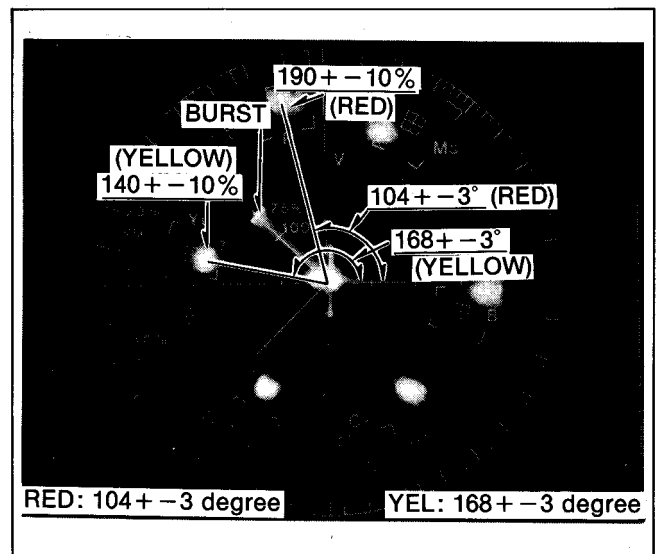

Fig. C21
4. \* Push [INC] or [DEC] keys until phase of red and yellow vectors are as close as possible to Spec. See Fig.C21.
7. \* Push [INC] or [DEC] keys until phase of red and yellow vectors are as close as possible to Spec. See Fig.C21.
10. \* Push [INC] or [DEC] keys until phase of red and yellow vectors are as close as possible to Spec. See Fig.C21.
13. \* Push [INC] or [DEC] keys until phase of red and Yellow Vectors are as close as possible to Spec. See Fig.C21.